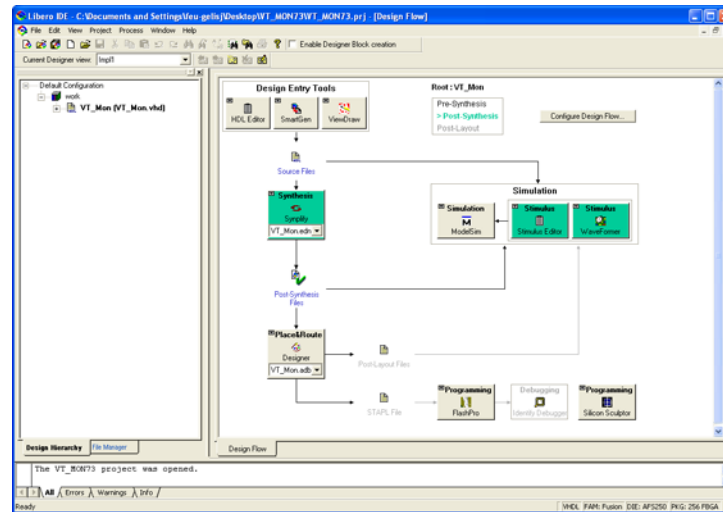

Figure 1-1 · Libero IDE Design Flow Window with VT\_Mon Project
6. Browse to *C:\Actelprj\VT\_Mon* and click **OK**. This opens the VT\_Mon project in Libero IDE (see Figure 1-1).